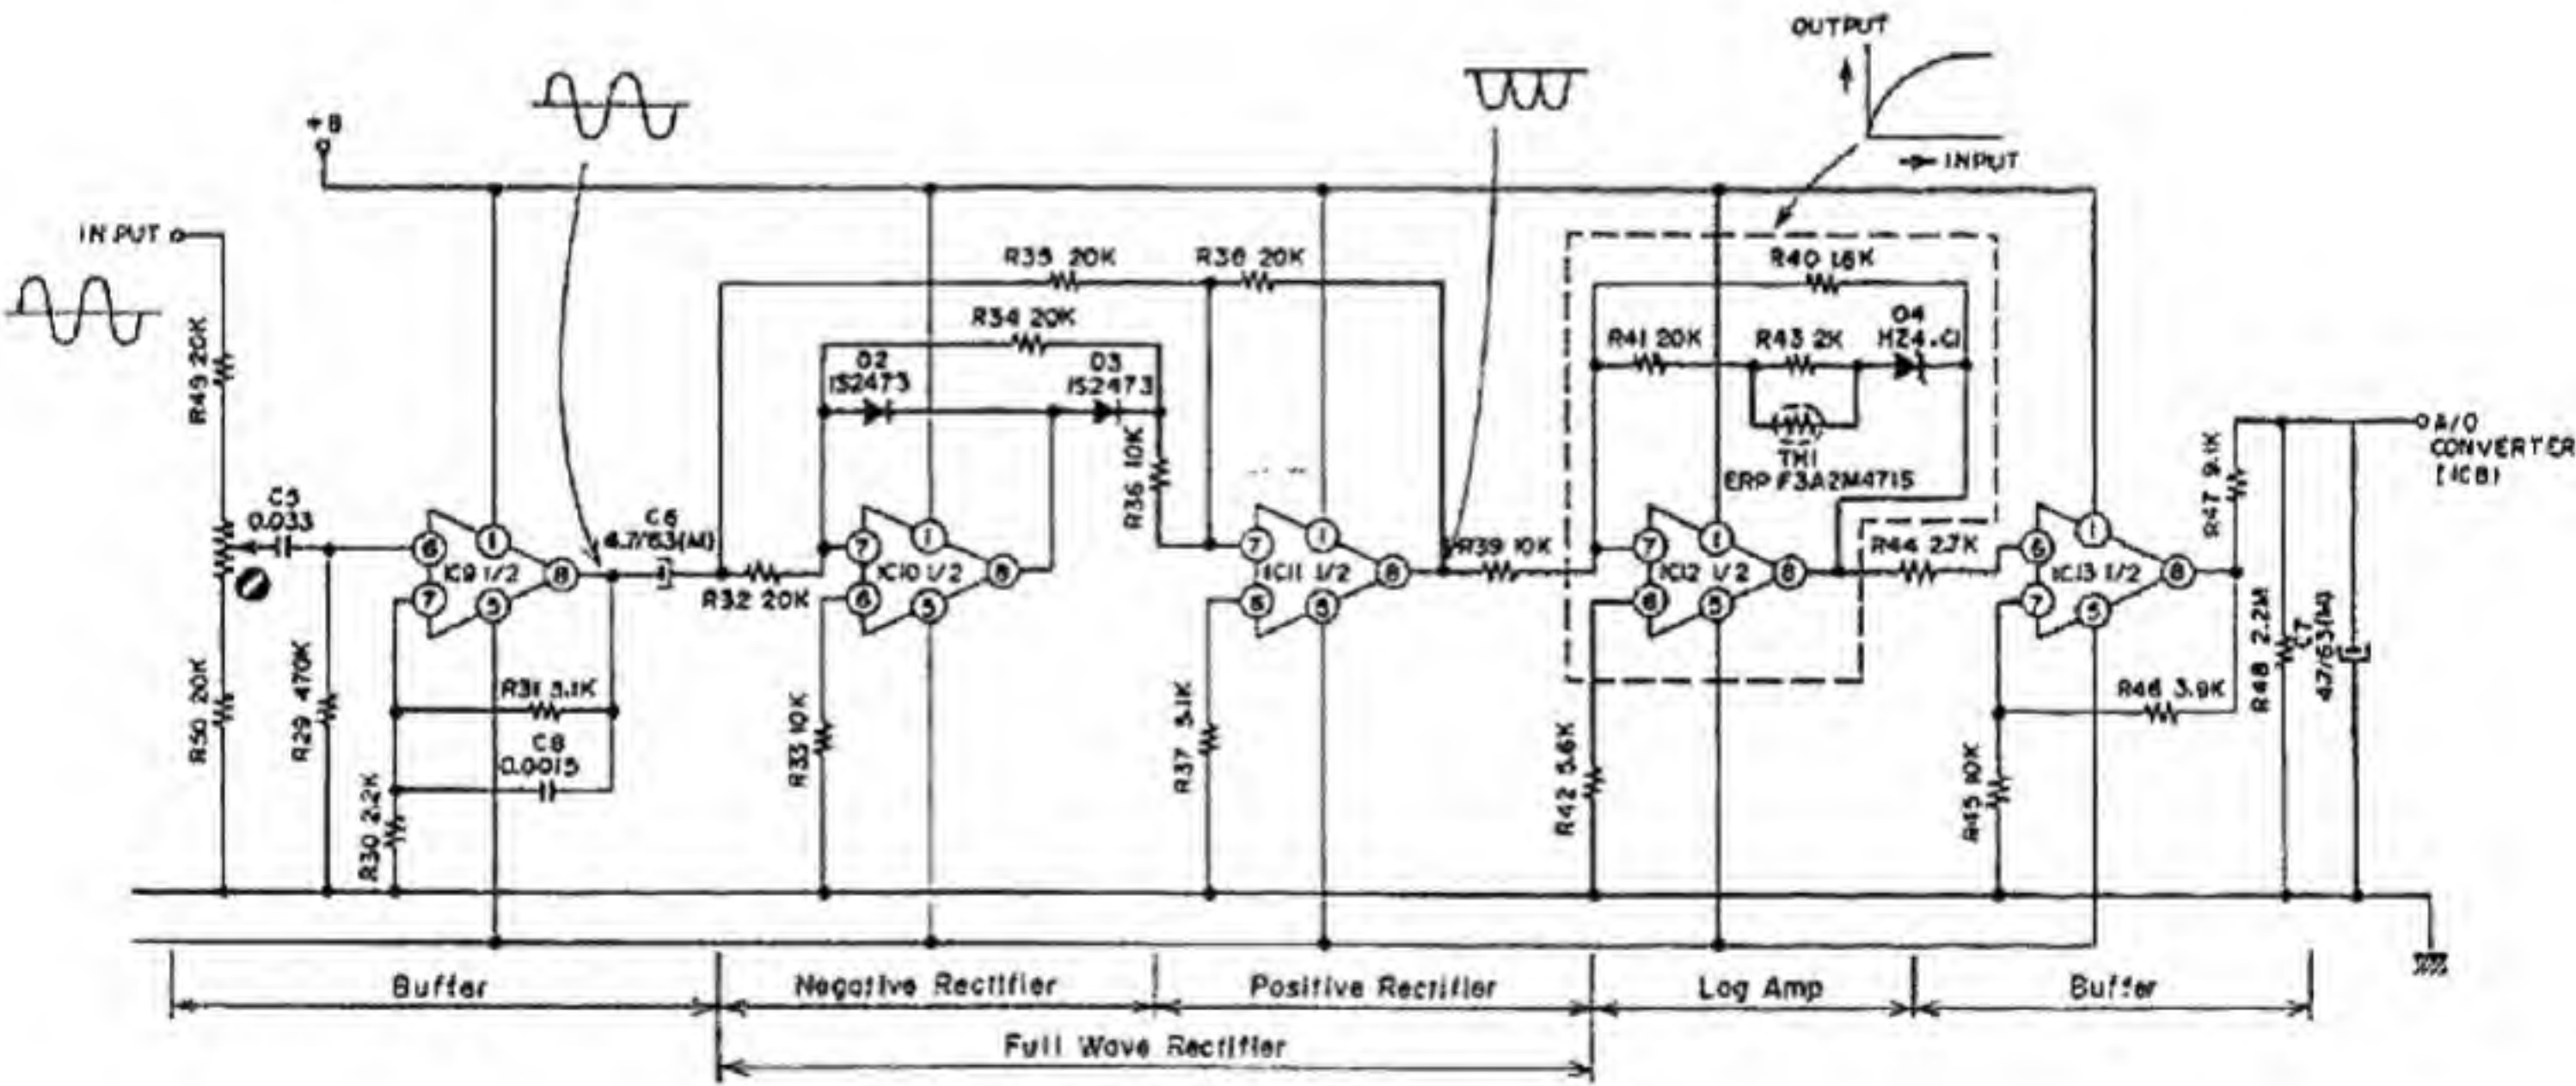

Fig. 11
1) Bar Meter Circuit (Refer to Fig. 11)